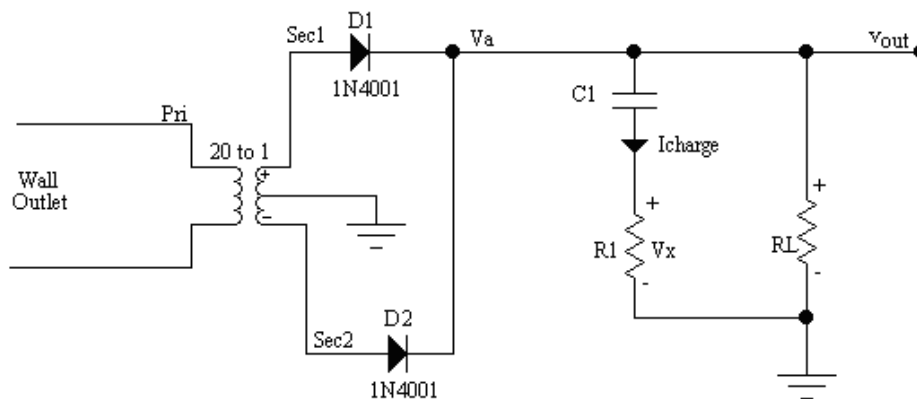

Figure 7.4: Full Wave Rectifier Filter
4. Calculate  $v_{OUT}$ ,  $I_{charge}$ , and the ripple voltage for Figure 7.4, with  $R_1 = 10 \Omega$ ,  $D_1 = D_2 = 1N4001$ ,  $C_1 = 100 \mu\text{F}$ ,  $R_L = 2.2 \text{ k}\Omega$ . Also, show a computer simulation.
4. Construct the circuit of Figure 7.4. Measure Sec1, Sec2,  $v_{OUT}$ ,  $V_X$ , using the oscilloscope.